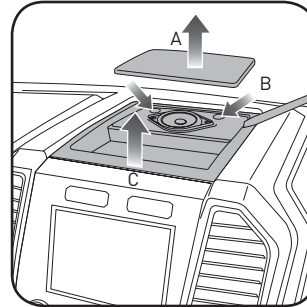

Fig. 1.0
1. If the vehicle is equipped with a center channel speaker: Pop the speaker grille up (A), unscrew (2) 7mm bolts from the tray (B), and remove it (C). (Fig. 1.0)